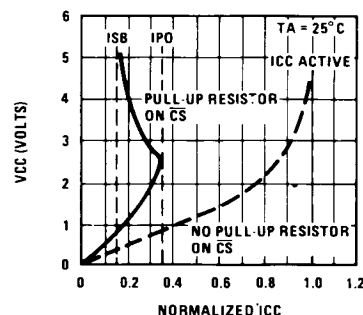

FIGURE 2. Power On Current
**Note 2:** A pull-up resistor to VCC on the chip select input is required to keep the device deselected or power on current approaches ICC active (see Figure 2).